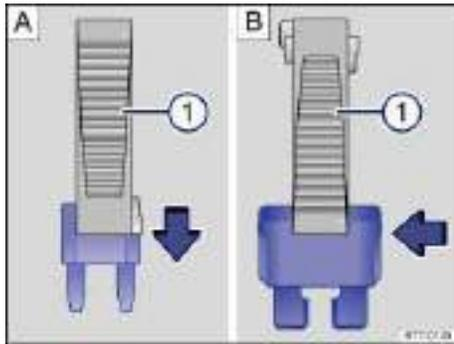

Fig. 191 Removing or inserting a fuse using the plastic tweezers 1.
- For *small fuses*, slide the tweezers ⇒ fig. 191 (1) onto the fuse from the top **A**.
- For *larger fuses*, slide the tweezers (1) onto the fuse from the side **B**.